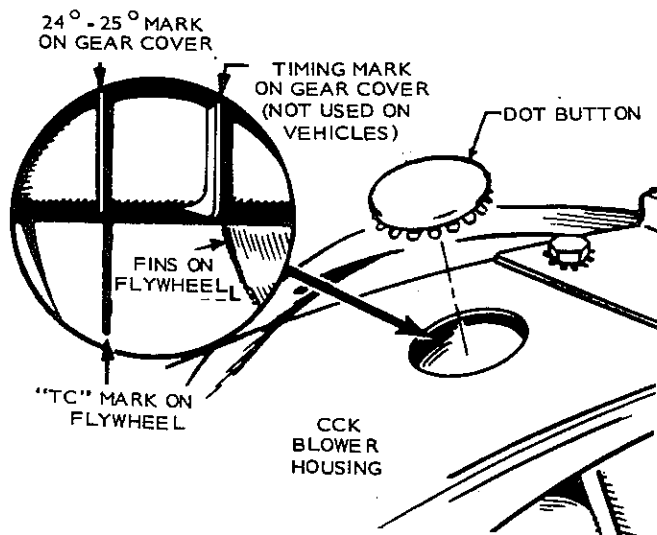

FIGURE 10-20. VACU-FLO IGNITION TIMING
1. Remove dot button from top of blower housing, Figure 10-20.